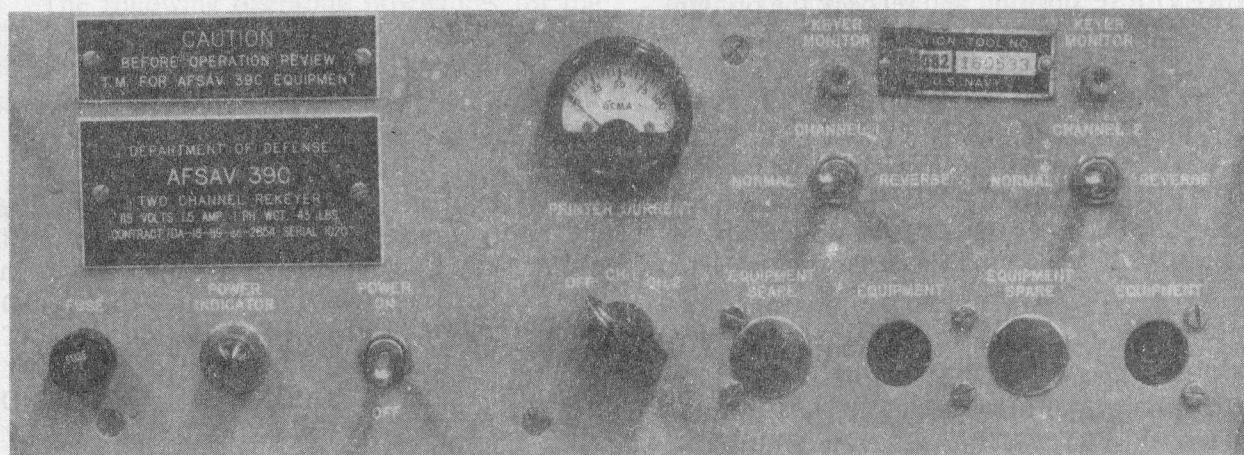

Figure 4-15.—CV-1627/URR two-channel rekeyer.
The CV-1627/URR (AFSAV 39-C) two-channel rekeyer (figure 4-15) is used to convert Keyed Tone (KT) signals received from the AN/FRA-86, or similar terminal equipment,
The operator controls and functions explained in Table 4-4 below, can be found on the front panel on the CV/1627/URR (see figure 4-15).